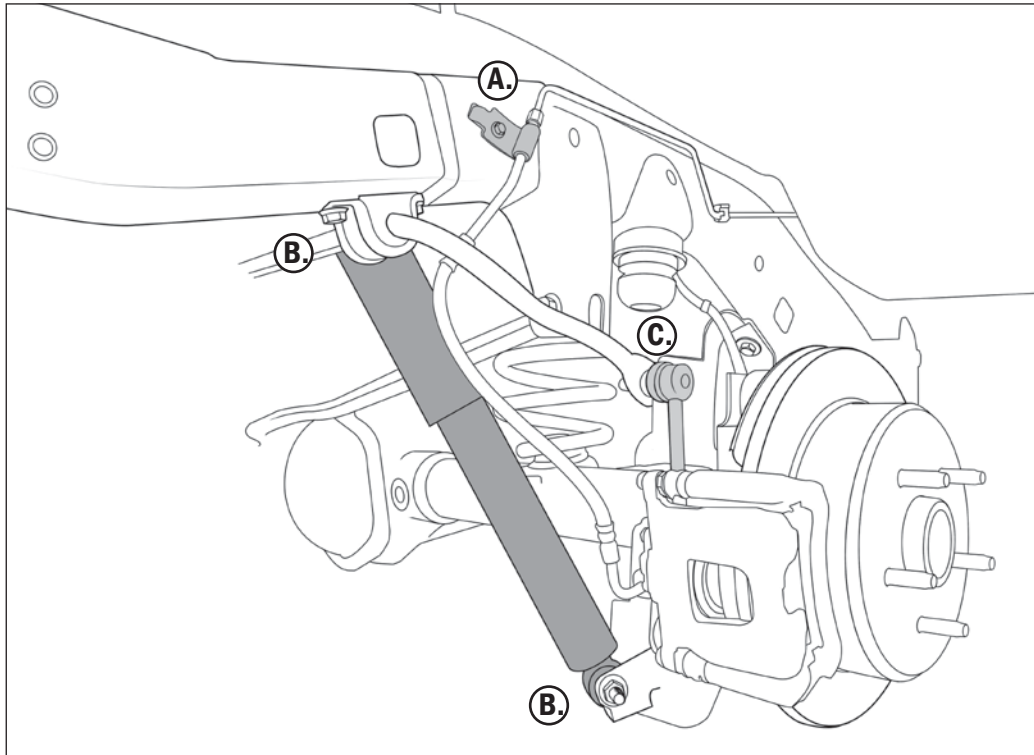

Figure 3
4. Remove the bolts that hold the brake lines to the frame (A fig.3).
5. Remove the shocks (B fig. 3).
6. Remove the sway bar end links (C fig 3.).